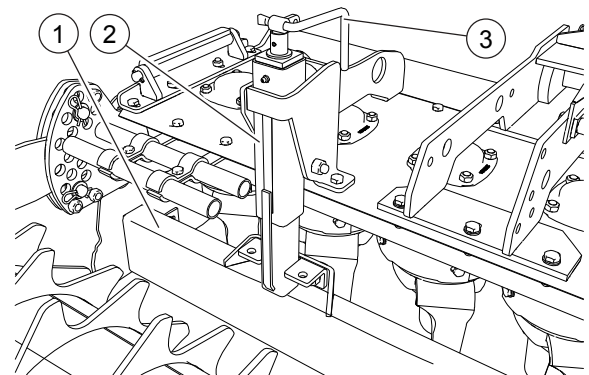

FIG. 35
To level and crumble the soil to a greater degree, the harrow has a levelling bar (1, "Fig. 35") positioned behind the tines. It can be adjusted in height by means of crank screws (2, "Fig. 35"). Make the adjustments by keeping the bar at the same distance from the soil as far as possible. Avoid using the bar at depth as it could be damaged. It is recommended to start working with the levelling bar in a high position. Set gradually the position of the bar by rotating the crank(3) until the desired position is reached.